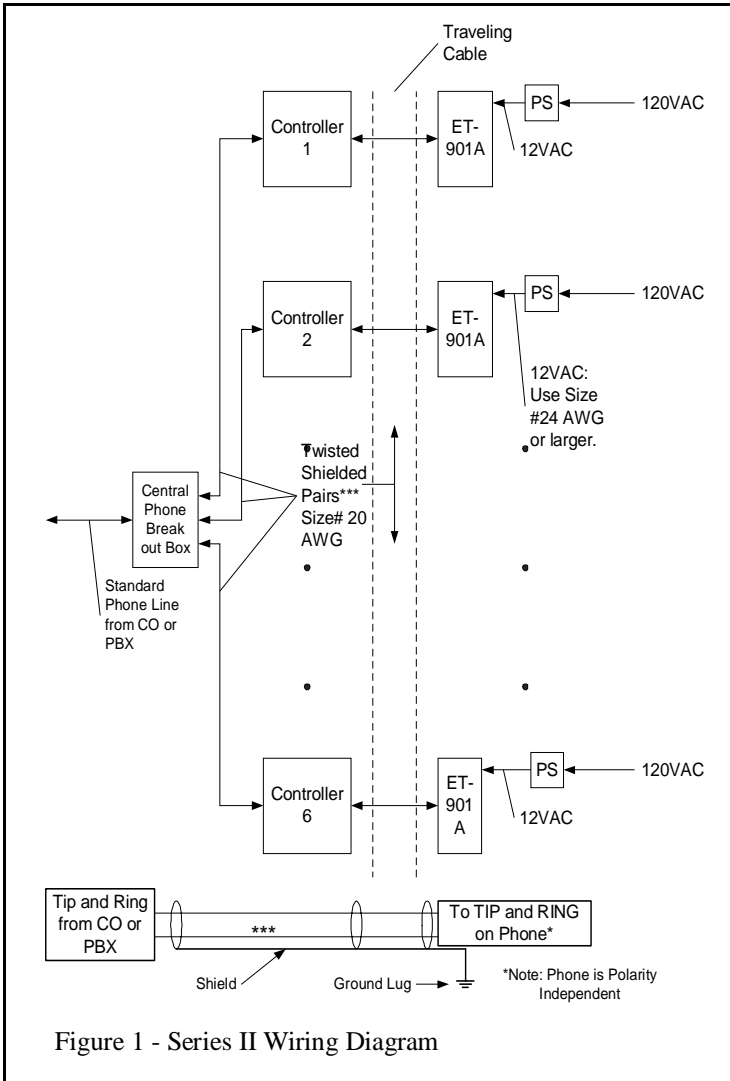
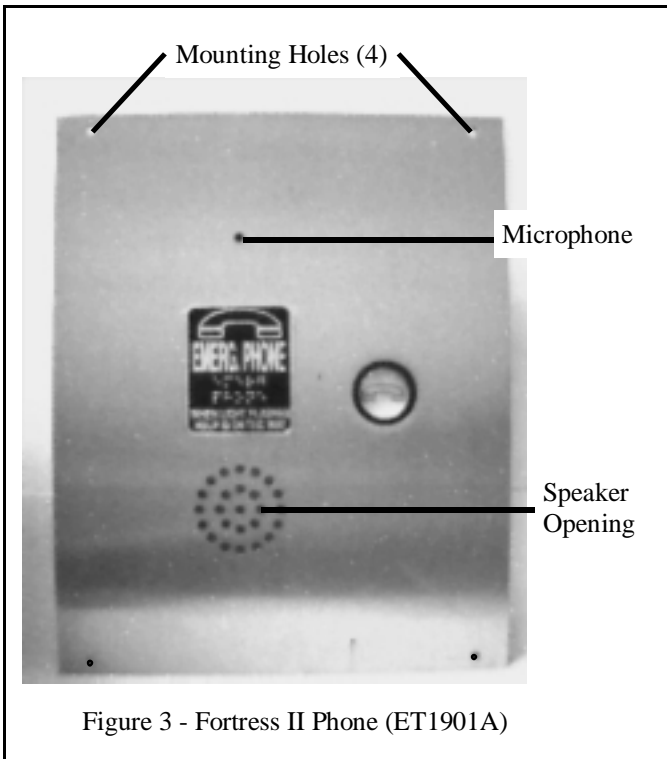
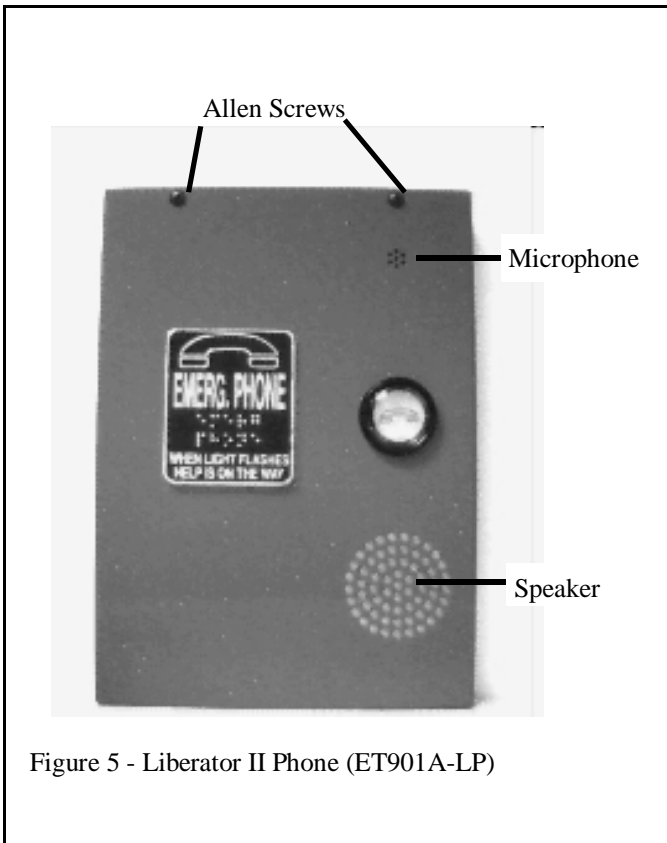
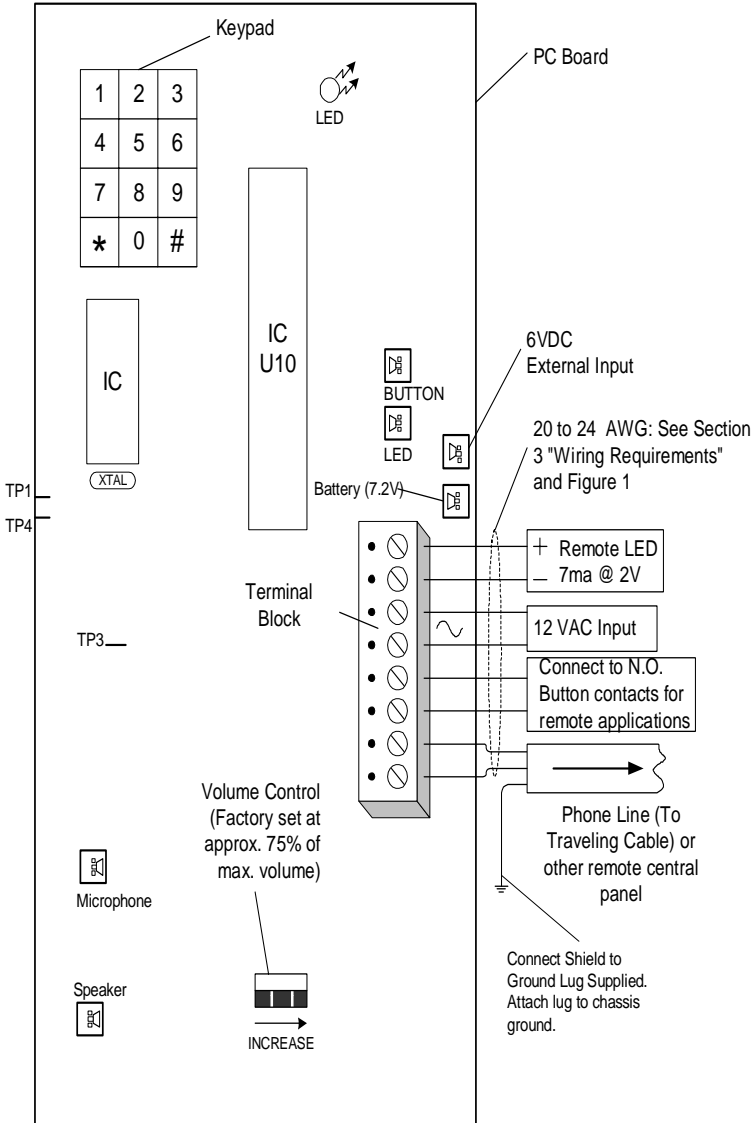

Figure 1 - Series II Wiring Diagram
Figure 3 - Fortress II Phone (ET1901A)
Figure 5 - Liberator II Phone (ET901A-LP)
Figure 7 - Series II Phone PC Bd Controls and Connections
Please refer to Figure 1 - System Wiring Diagram for details on the wiring required to the CO or PBX in your installation.
Note: Before installing the phone, you should wire your site according to the recommendations given in the following Figure 1 - Series II Wiring Diagram. While it shows up to 6 phones, the information also applies to a single phone installation.
Sentry II (ET901A) - Please refer to Figure 1 - Series II Wiring Diagram, Figure 2 - Sentry II Phone and Figure 7 - Series II Phone Board Controls and Connections for the following installation.
- If not already installed, connect the battery to the phone by plugging it in to the location labeled "Battery (7.2V)" (Figure 7).
- Refer to Figure 7. Connect the **telephone line** to the terminal block (polarity does not matter).
Fortress II (ET1901A) - Please refer to Figure 1 - Series II Wiring Diagram, Figure 3 - Fortress II Phone (ET1901A) and Figure 7 - Series II Phone Board Controls and Connections for the following installation.
transformer (**disconnected from 120VAC power**) and **phone line wires** to the appropriate connector screws on the terminal block. See Figure 7.
- Check to be sure the **push-button, LED, speaker, microphone, and battery** are all plugged into their receptacles (labeled on the board). See Figure 7.
Commander II (ET901A-OEM) - Please refer to Figure 1 - Series II Wiring Diagram, Figure 4 - Commander II Phone and Figure 7 - Series II Phone Board Controls and Connections for the following installation.
- Connect the remote push-button (not included) to the appropriate terminals on the phone board connector (terminal strip), or, if equipped with the proper connector, plug it into the pc board receptacle marked **BUTTON**. See Figure 7.
- Install the included PSB bulb into the push-button. Connect the remote light to the appropriate location on the terminal strip following the correct polarity (Figure 7).
- Connect the 12 VAC power lines from the power transformer (**disconnected from 120VAC power**) and phone line wires to the appropriate connector screws on the terminal block. See Figure 7.
Liberator II (ET901A-LP) - Please refer to Figure 1 - Series II Wiring Diagram, Figure 5 - Liberator II Phone and Figure 7 - Series II Phone Board Controls and Connections for the following installation.
- Refer to Figure 7 for proper connections. Connect the **telephone line** to the **terminal block** (polarity does not matter). Note that the screws are toward the outside. (**Note:** Flat telephone cable is not appropriate here as it is too thin to provide a reliable connection without breaking. See Figure 1.)
- Connect the output of the **transformer** to the two terminals provided as shown by Figure 7.